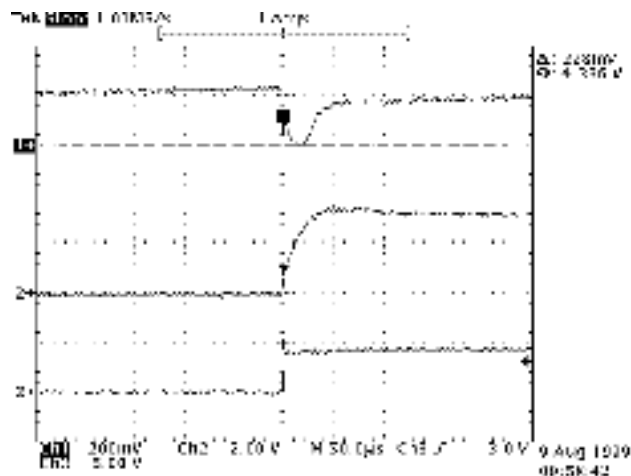

Figure 5.  $V_{CC}$  Power-up Cold Start
**$V_{CC}$  Power-up Cold Start.** Figure 5 shows the output response during an initial  $V_{CC}$  power-up with  $V_{AUX}$  not present. When  $V_{CC}$  reaches the select threshold, the regulator turns on. The uncharged output capacitor causes maximum in-rush current to flow, resulting in a large voltage disturbance at the  $V_{CC}$  pin of about 230mV. The built-in hysteresis of 250mV ensures the regulator remains enabled throughout the transient. Prior to  $V_{CC}$  reaching an acceptable logic supply level (2V), a disturbance on the Drive pin can be observed.